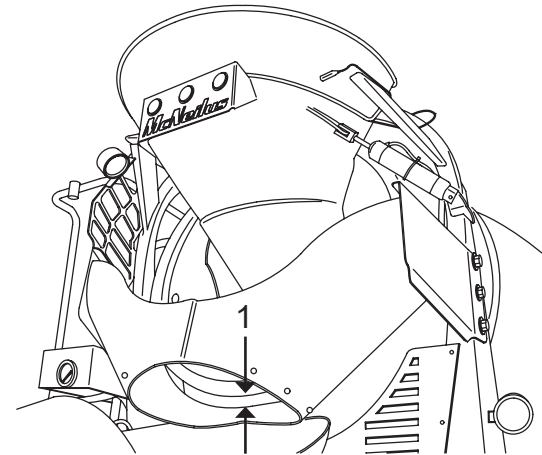

Figure 168
5. Check the discharge hopper-to-drip ring clearance (Figure 168, Item 1). Clearance should be 2 inches (51 mm) between the discharge hopper face and the drip ring, and no more than 1 inch (25 mm) radially around the drip ring.